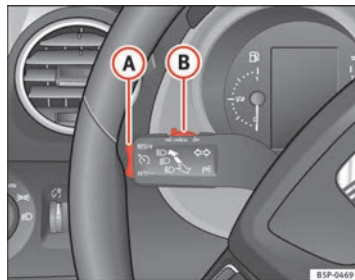

Fig. 149 Indicator and main beam headlight lever: switch and rocker switch for the cruise control
- Press the lower part **SET/-** of the rocker switch ⇒ fig. 149 (A) once briefly when you have reached the speed you wish to set.